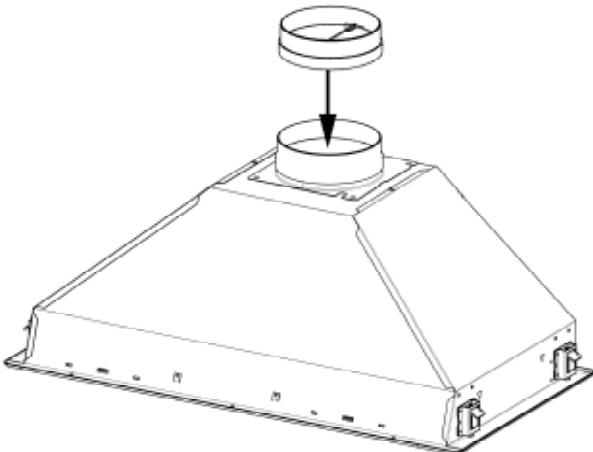

FIGURE 5
2. Place the round damper into the exhaust opening of the rangehood and press down as indicated in **FIGURE 5**. Use duct tape to secure if necessary.